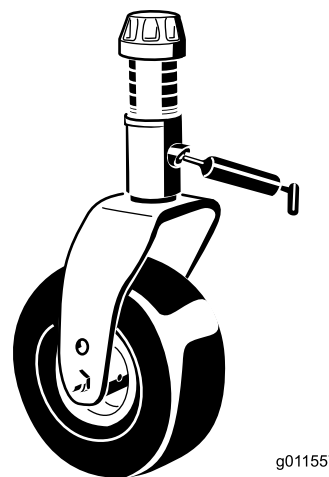

Figure 66
- 1 caster-fork-shaft bushing (Figure 66)